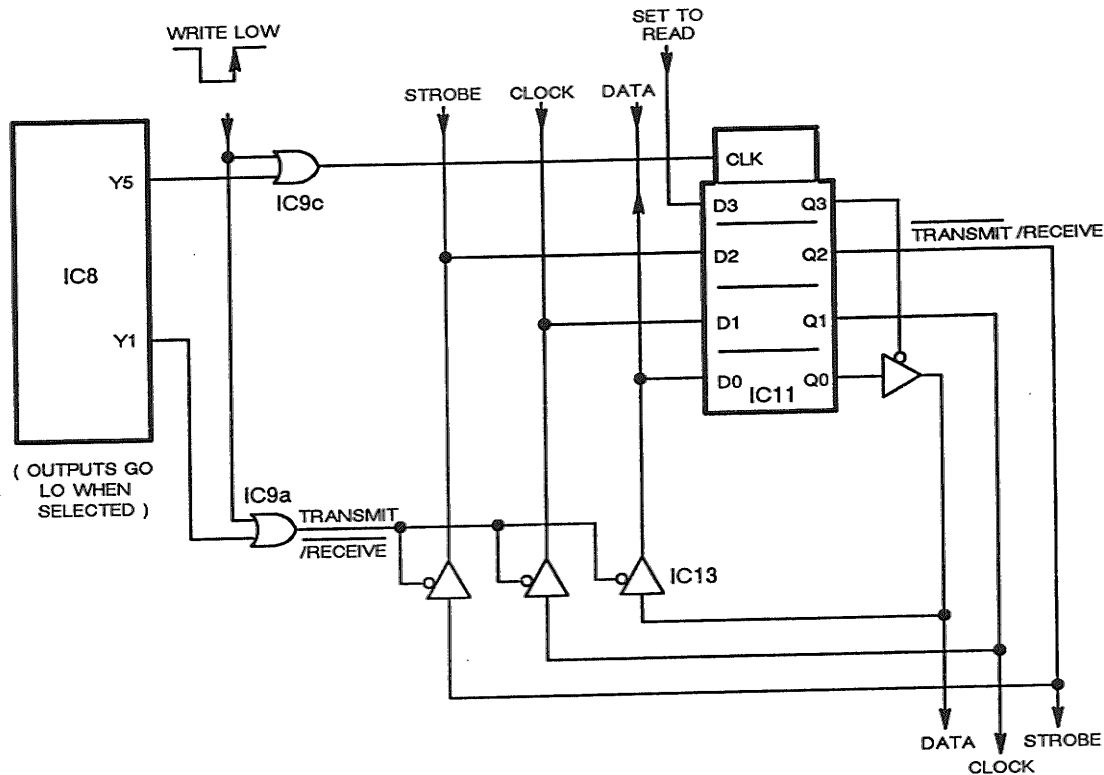

Fig. 4-3 Serial data transceiver (AA2/1)
52. This arrangement is used to communicate with all devices mounted outside the RF box AA0. Plug PLAC carries three lines to effect data transfer, see Fig. 4-3. These are pin 4, CLOCK, pin 5, STROBE and pin 6, DATA. The DATA line is bi-directional whilst the CLOCK and STROBE lines only carry information out from the microprocessor board. The +5 V supply rail and the RST 7.5 INTERRUPT line together with an earth are the remaining connections made via PLAC.